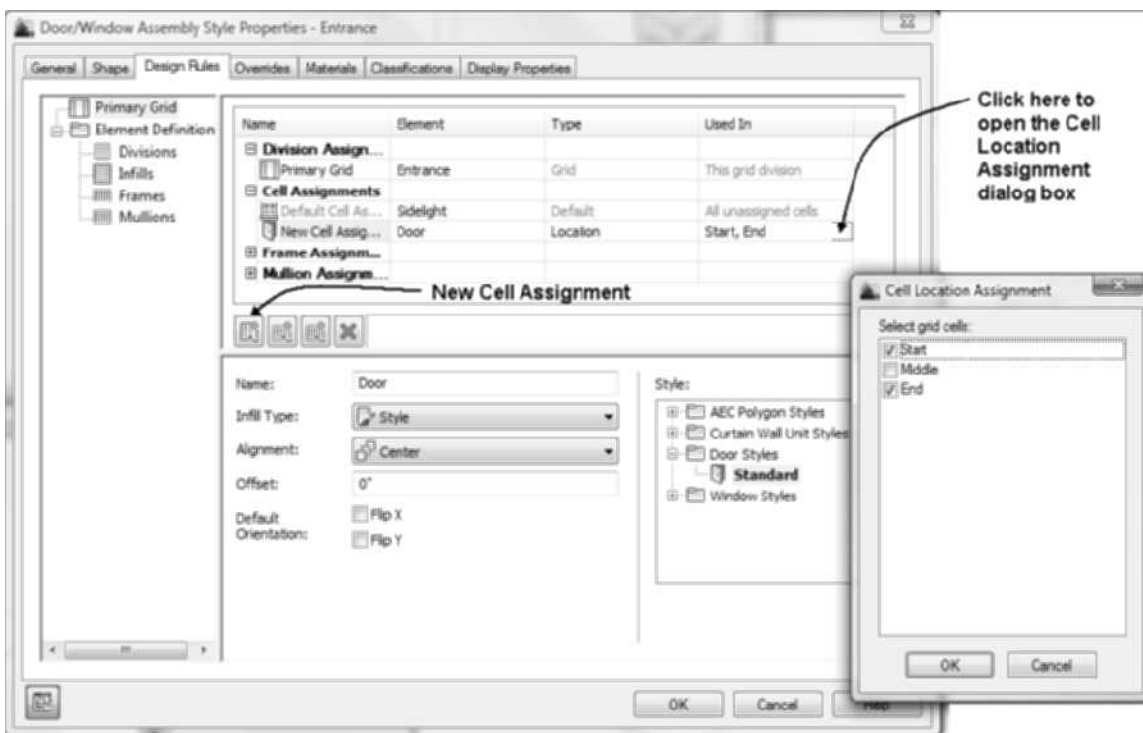

FIGURE 6.29 Specifying the door unit for the middle location
20. Select **Primary Grid** in the left pane, select **Cell Assignments** in the upper-right pane, and choose the **New Cell Assignment** button in the right pane as shown in Figure 6.29.
21. Edit the New Cell Assignment. Click in the **Element** column, and select **Door** from the drop-down list. Click in the **Used In** column, edit the Cell Location Assignment to **Middle**, and clear the checkboxes for **start** and **end** as shown in Figure 6.29. Click **OK** to dismiss the **Cell Location Assignment** dialog box.